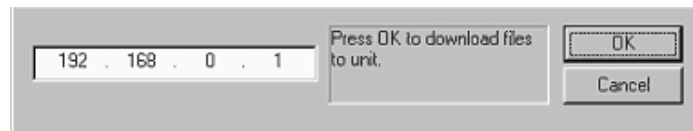

Figure 73: Entering the satellite router IP address
4. Type **192.168.0.1** in the IP address field on the System Updater window as shown in Figure 73. This value is the HX200 IP address.